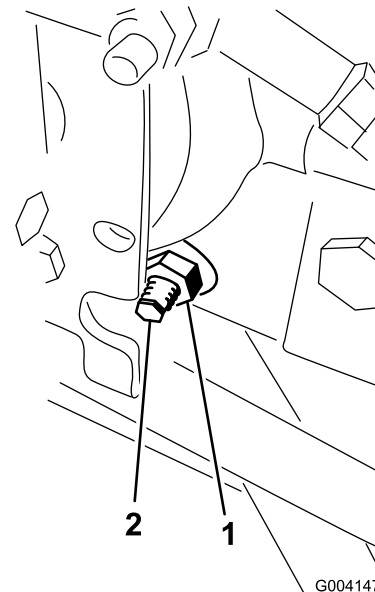

Figure 79
3. On the right side of the hydrostat, loosen the locknut on the traction-adjustment cam (Figure 79).